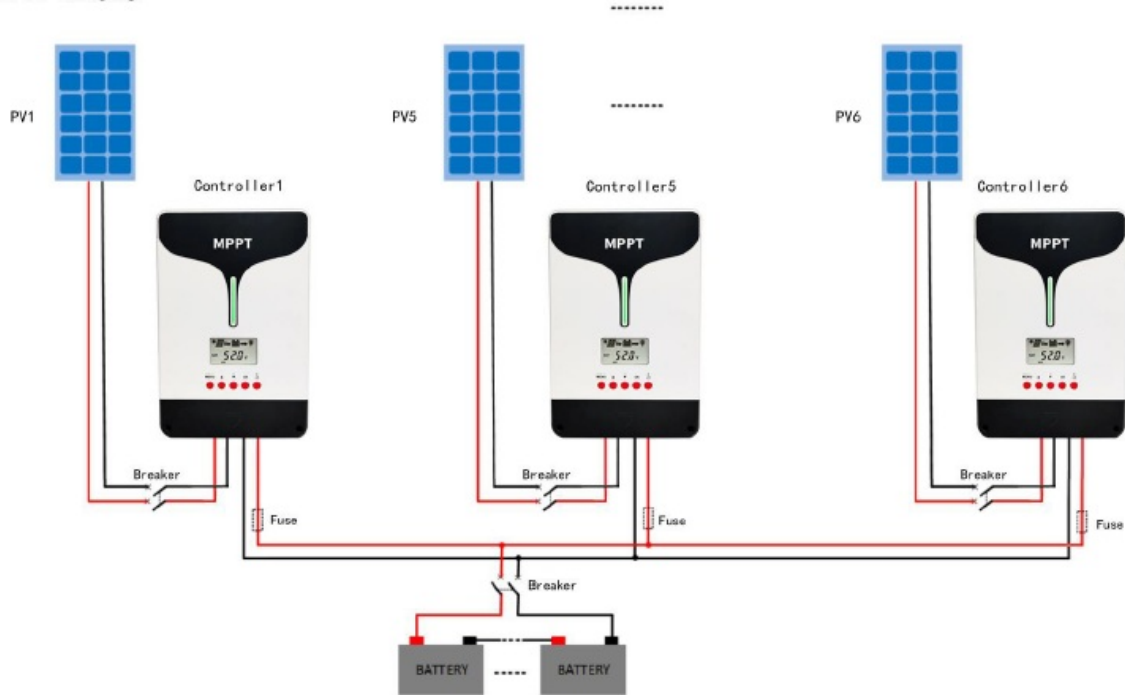

Figure 2-2 Schematic of wiring diagram
- Step 3: wire Connect the system in the order of ❶battery ❷ PV array ❸load(only 60A) in accordance with Figure 2-2, “Schematic Wiring Diagram” and disconnect the system in the reverse order ❸❷❶.